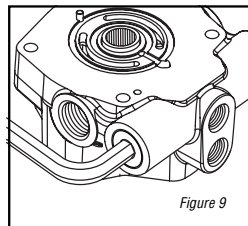
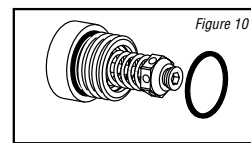

Figure 9
Figure 10
**8** Use a 9/16 in. hex key to remove the two high pressure relief valves from the pumps backplate assembly (see Figure 9). Remove relief valve as shown from each side (see Figure 10). Each system relief valve S/A is identified by both its part number and relief valve setting as shown in Parts Information manual.